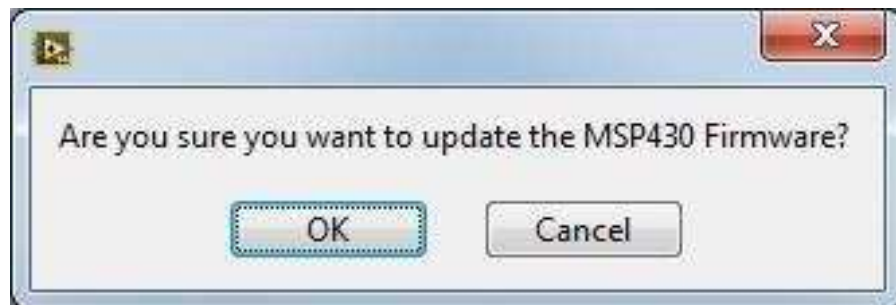

Figure 11. Firmware Update Confirmation
8. Figure 11 appears. Click the “OK” button to precede the firmware update.